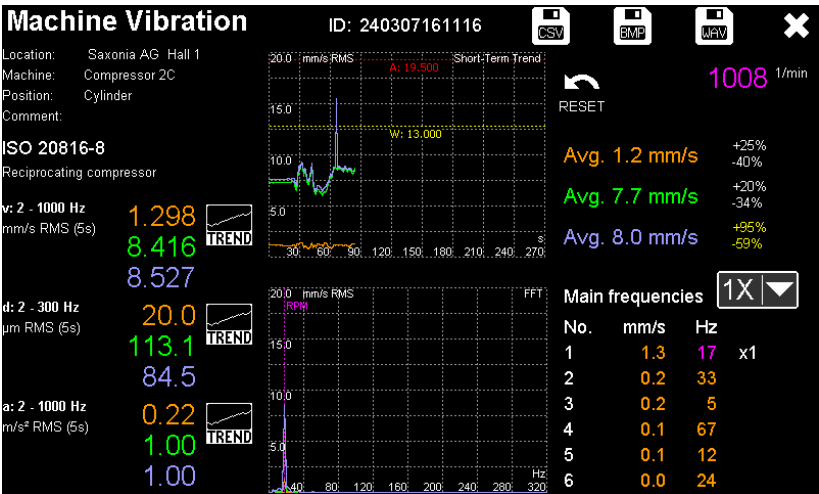

Figure 49: Measurement according to ISO 20816-8
- ➔ For measurements according to ISO 20816-8 with acceleration, velocity and displacement, no phase angles are output for reasons of space (Figure 49).